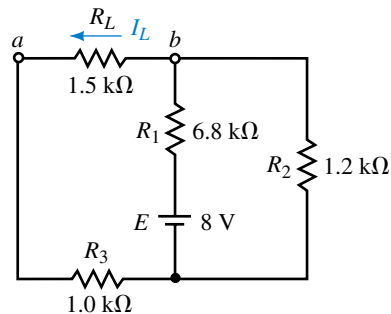

FIGURE 9-83
9. Repeat Problem 7 for the circuit of Figure 9-83.